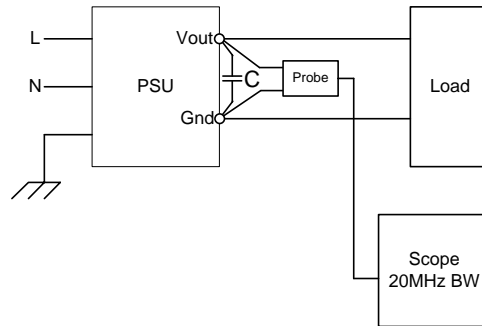

Figure 6. Output Ripple Test Setup
- Outputs bypassed at the point of measurement with a parallel combination of  $10\mu\text{F}$  tantalum capacitor in parallel with  $0.1\mu\text{F}$  ceramic capacitors, referring the setup in *Figure 6*.